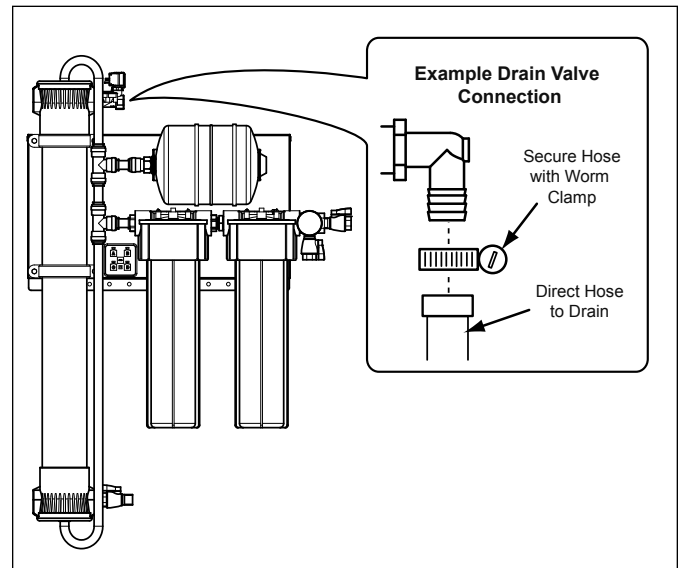

Figure 3. Drain Valve Connection
2. Connect one end of the hose to the Drain Valve with an appropriate fitting (not supplied) (Figure 3).
3. Direct the other end of the hose to the drain (Figure 3).